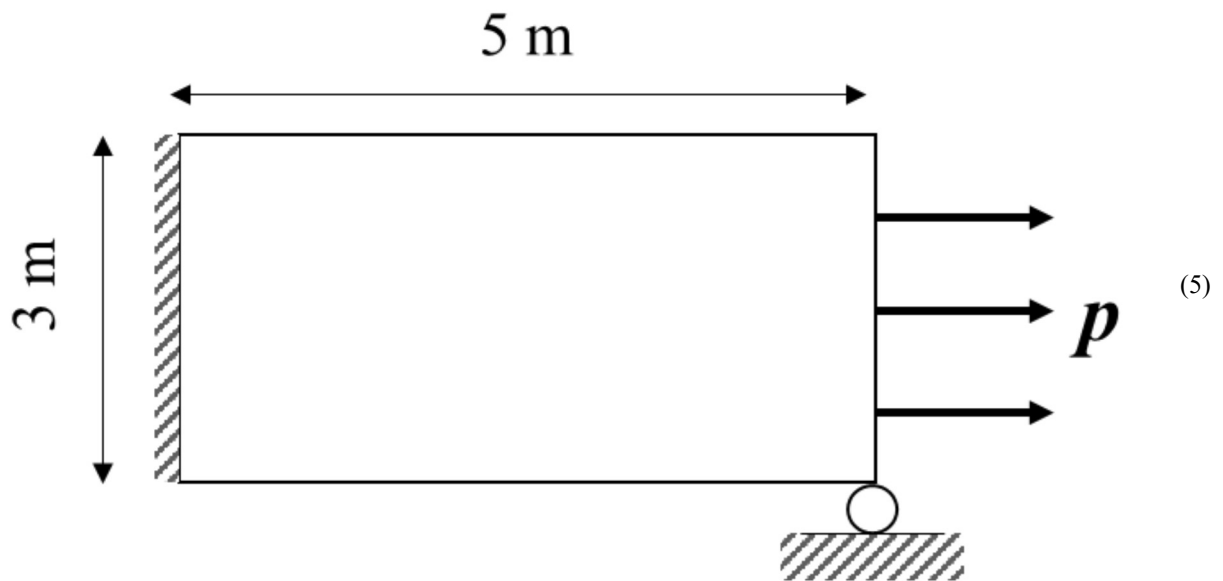

Figure 7 2D plate subjected to pressure in x-direction.
- 5) For the 2D Plane Stress problem as shown in Figure 7, establish the force-displacement relation in terms of the global stiffness matrix. Given $E = 200 \text{ GPa}$, $\nu = 0.3$, $t = 0.02 \text{ m}$, $p = 80 \text{ kPa}$.
- B) For the 2D plate in Figure 7, determine the unknown displacements and reactions at the supports. (3)
- C) For the 2D plate in Figure 7, solve for the unknown stresses within the plate. (2)